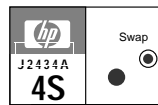

Figure 6. Swap Button and LED
3. If the Swap LED on the interface card you will be removing is not on (see figure 6), press the adjacent Swap button, and hold it until the Swap LED turns on (about 1–5 seconds).